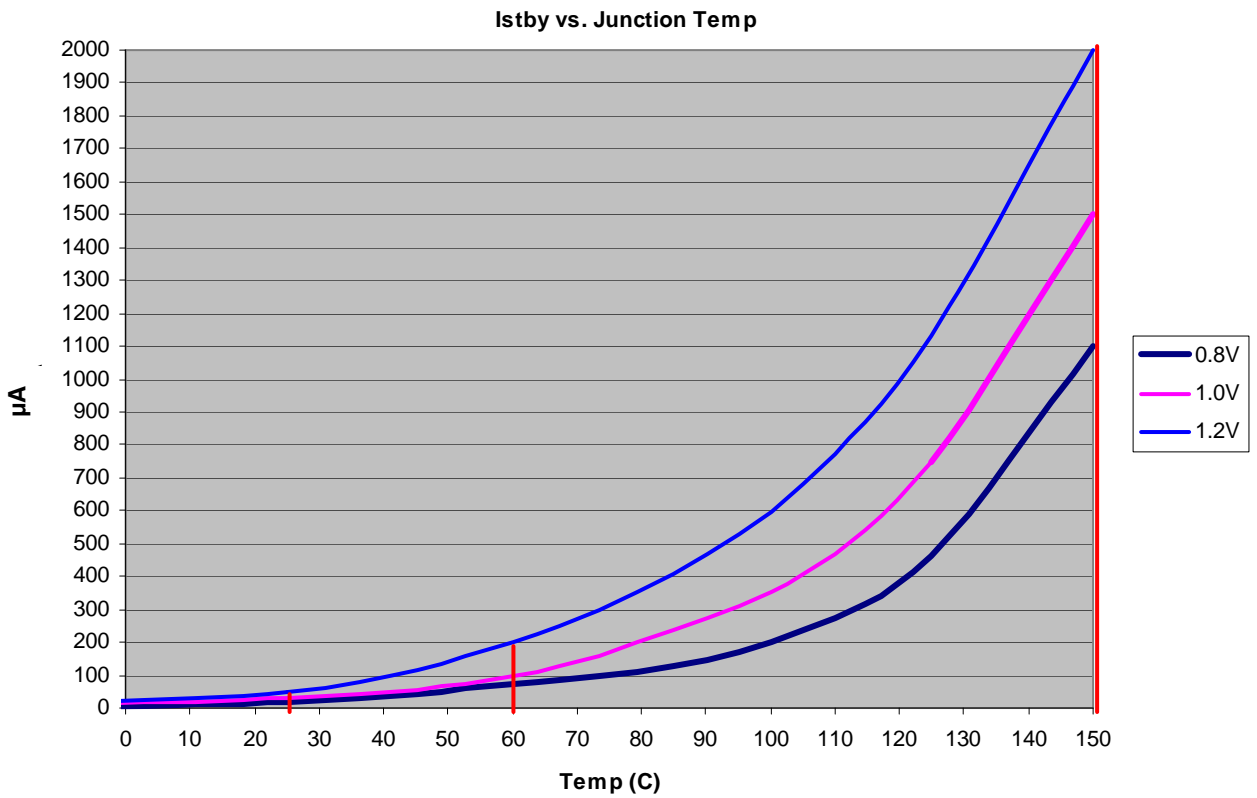

Figure 3. I_{STBY} Worst-case Specifications
27d	Refer to Figure 3 for an interpolation of this data. ¹¹
- 7 Figure 3 shows an illustration of the I_{DD_STBY} values interpolated for these temperature values.
- 11 Figure 3 shows an illustration of the I_{DD_STBY} values interpolated for these temperature values.
Figure 3 shows an approximate interpolation of the I_{STBY} worst-case specification to estimate values at different voltages and temperatures. The vertical lines shown at 25 °C, 60 °C, and 150 °C in Figure 3 are the actual I_{DD_STBY} specifications (27d) listed in Table 9.